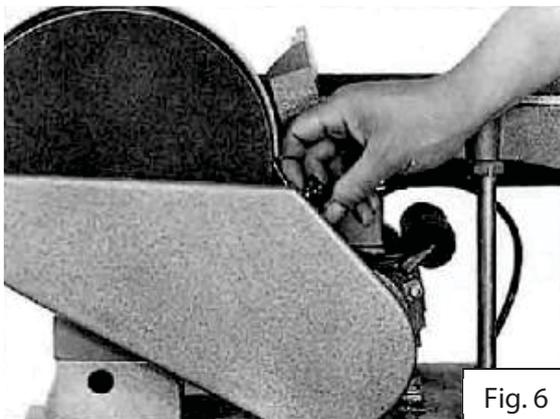

Fig. 6
1. Loosen the knob and open the disc cover as shown in Fig. 6.